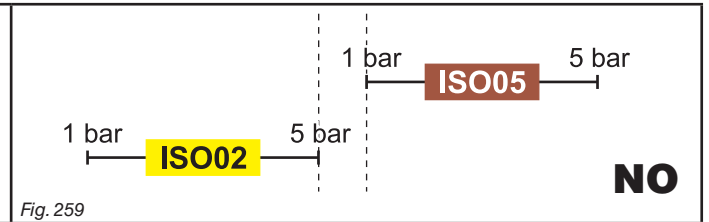

Fig. 259
- **NON compatible nozzles:** the rate at 1 bar of the ISO05 nozzle is HIGHER than the rate at 5 bars of the ISO02 nozzle (Fig. 259).